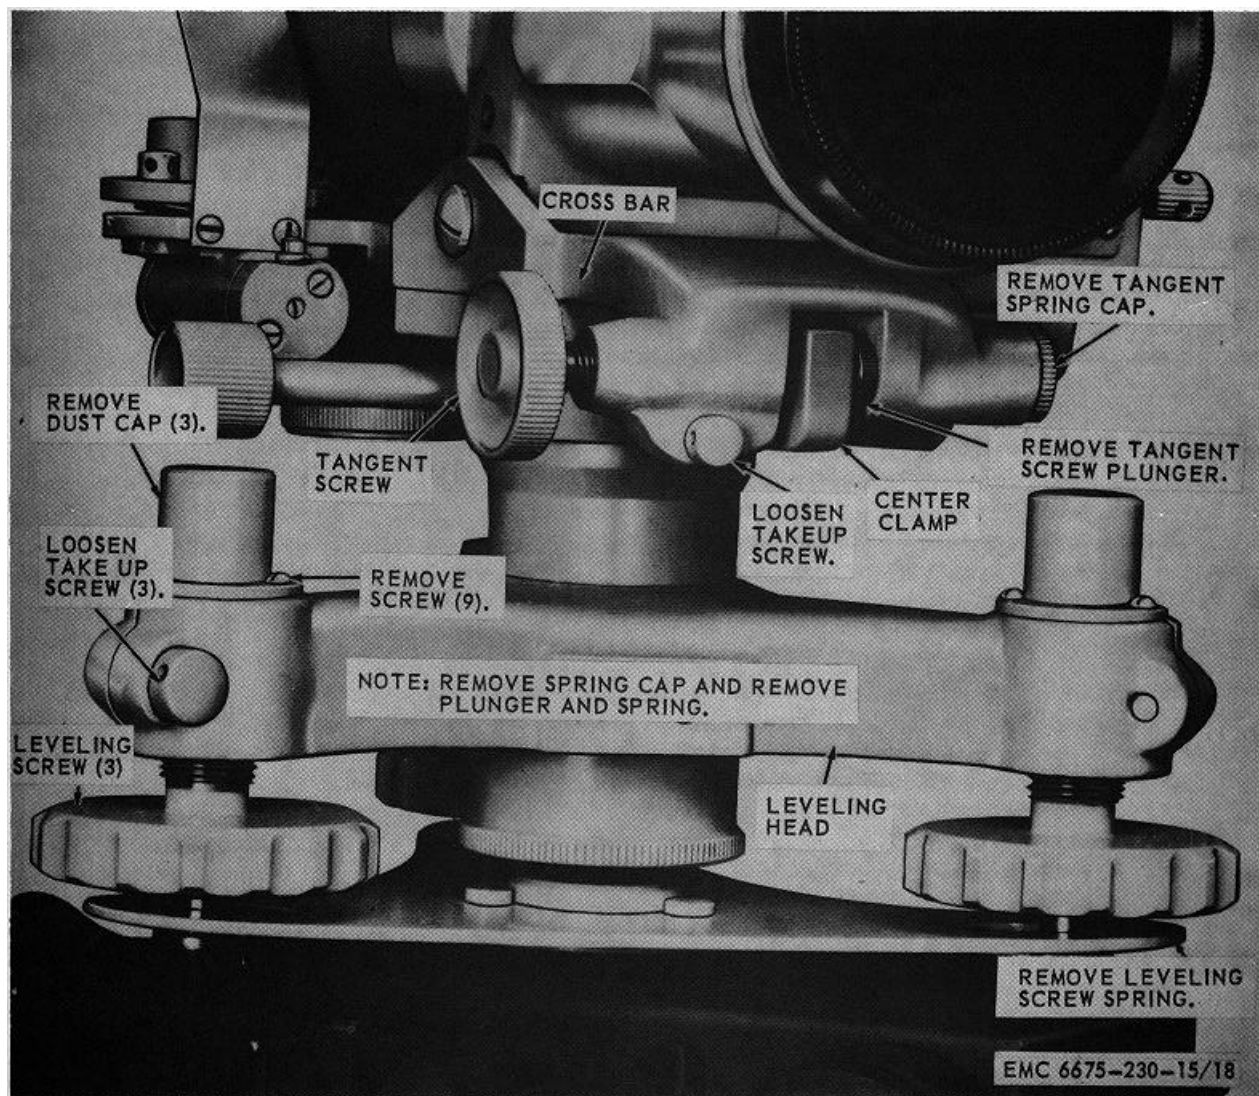

Figure 18. Leveling and tangent screws, removal and installation.
- (2) Refer to figure 18 and remove the leveling screws and leveling screw spring.
- (3) Refer to figure 18 and remove leveling screw dust caps.
- (1) Refer to figure 18 and install the leveling screw dust caps.
- (2) Refer to figure 18 and install the leveling screws and spring.
- a. *Removal.* Refer to figure 18 and remove the tangent screw, spring, and plunger.
- (1) Clean with an approved cleaning solvent and dry.
- (2) Inspect screw, plunger, and cap for chipped, cracked, or worn conditions. Replace defective parts as required.
- (3) Inspect spring for wear and proper tension. Replace a damaged spring.
- c. *Installation.* Refer to figure 18 and install the tangent screw, spring, and plunger.